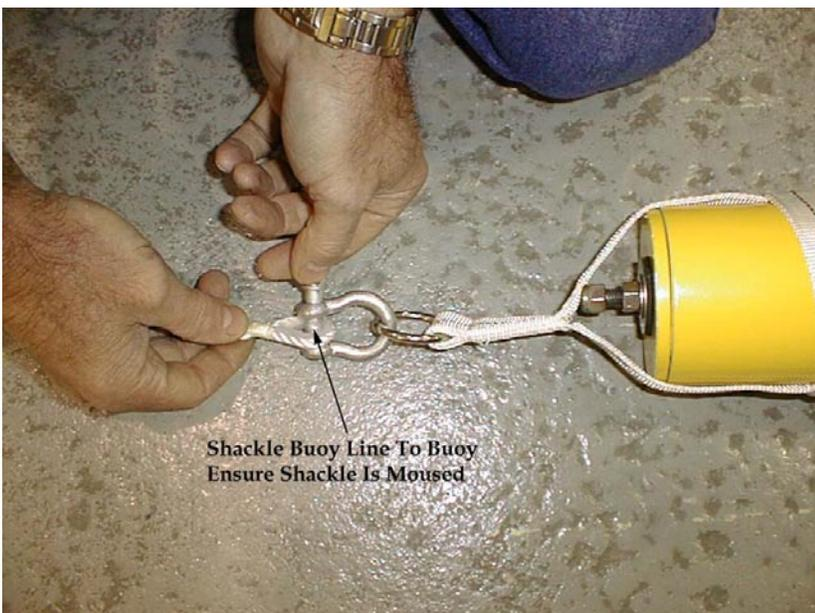

Figure 20
- A. Install shackle provided between the buoy line and the anchor bridle. Mouse the shackle; i.e., prevent the shackle pin from turning with a length of line, stainless steel wire or a nylon wire tie. (Fig. 20)